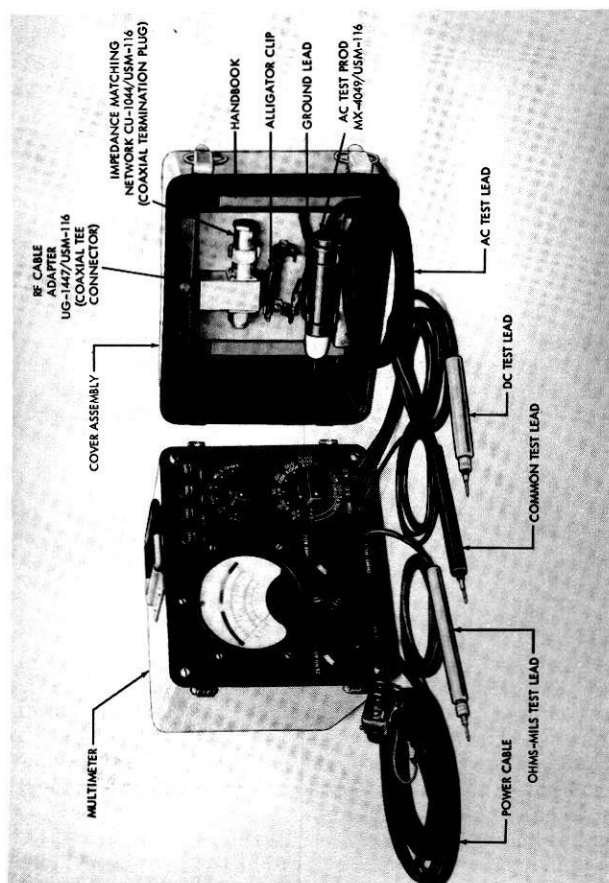

Figure 1-1. Electronic Multimeter AN/USM-116
This technical manual describes the circuit theory, installation, operation and maintenance procedures for Electronic Multimeter AN/USM-116. See figure 1-1 for an identifying view of the multimeter and its accessories.
a. **PURPOSE.** - Multimeter AN/USM-116 is a portable, combination electronic instrument used for general servicing of electronics equipment. It is designed for use where precise voltage, current and resistance measurements are required. It provides a direct reading of values on a single indicating meter mounted on the control panel (see figure 1-1). A high input-impedance permits voltage measurements to be made with only a small percentage of loading on the circuit under test. The multimeter can measure the following: Alternating current (ac) voltages and radio frequency (rf) voltages which are indicated in rms